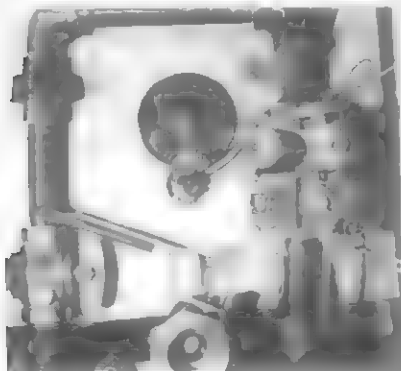

Fig 2
- 4) Disconnect the thermostat wires from gas valve. See Figure 2